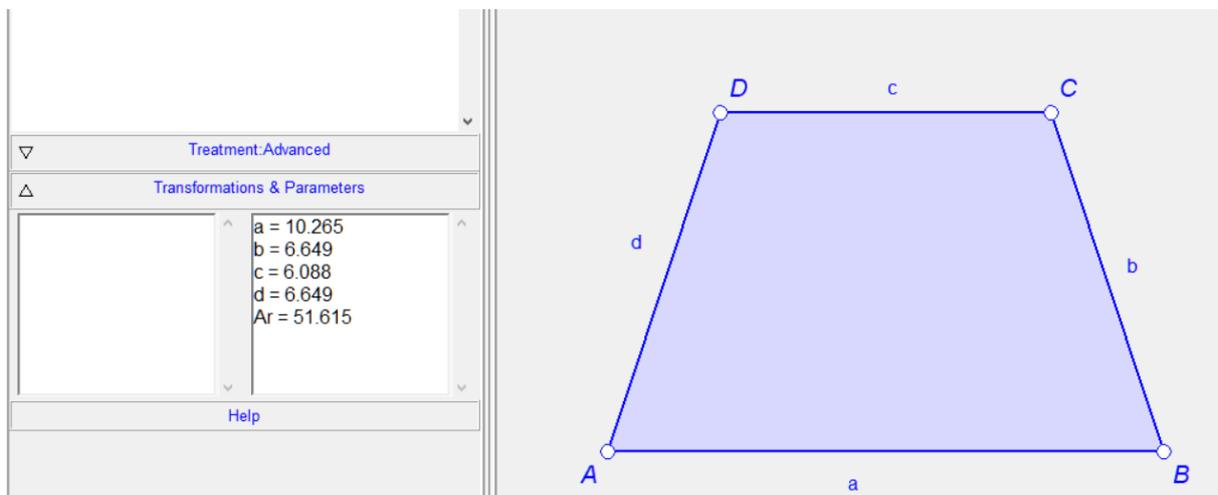

Figure 30
2. Measure the potentially relevant geometric quantities in the Sketch Editor. You can use the commands *Number/Distance*, *Number/Radius*, *Number/Length* or *Number/Area*. In our case we have measured the sides a, b, c, d and the area Ar (Figure 30).
3. Apply the command *Command/Observe formulae/Simple*. A form appears. In the list of measured quantities, select the ones you think are relevant. In our case we have selected all of them. Then click the **Observe** button (Figure 30, left).